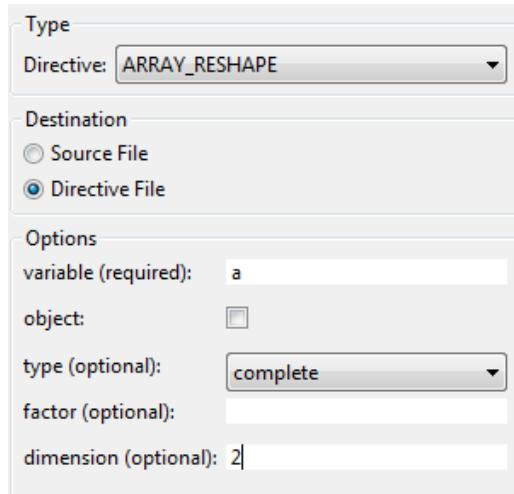

Figure 3.15: Directive configurations for reshaping array a
- (r) Ensure the source code *matrix_mult.cpp* is visible in the editor, and open the **Directives** tab. Right-click on variable *a* and select *Insert Directive*. Ensure the directive is configured as in Figure 3.15, with *ARRAY_reshape* selected as directive type and dimension specified as 2.